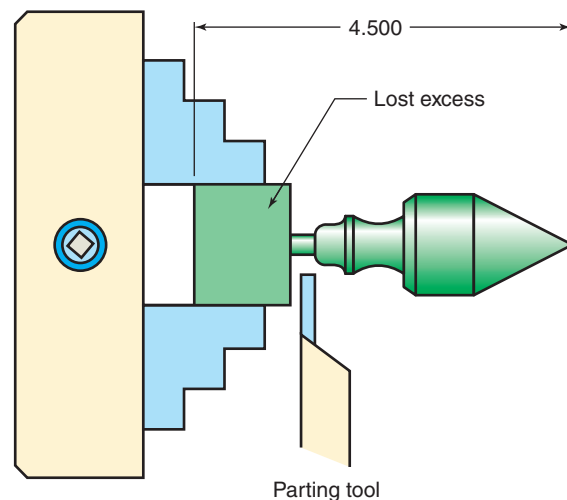

Figure 16-3 Option 2—Cut all features in one setup, then part off the finished work.
2. Sawing with Grip Material (Fig. 16-3)
2. On the other hand, how about cutting the bar into 5-in.-long pieces? (See Fig. 16-3.) That leaves a minimum of $1\frac{1}{2}$ in. stock to grip in the chuck so the entire shape can be turned, then parted off at the final